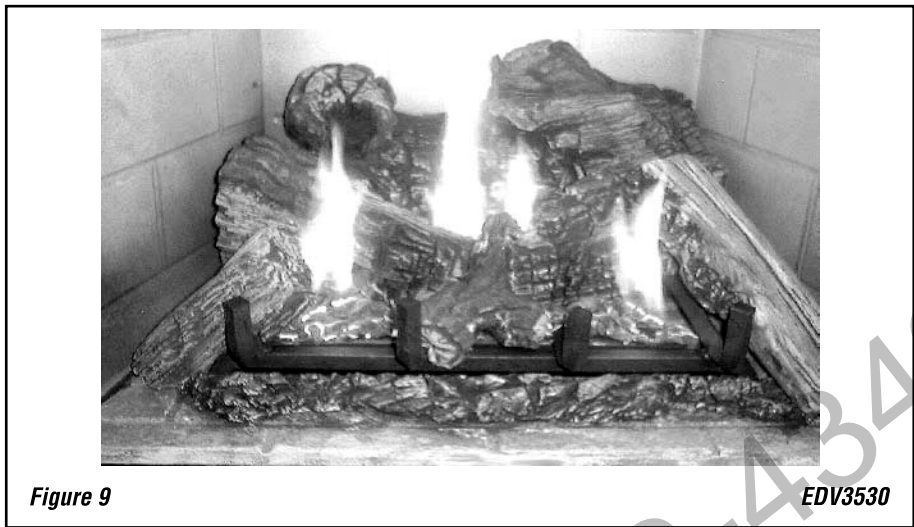
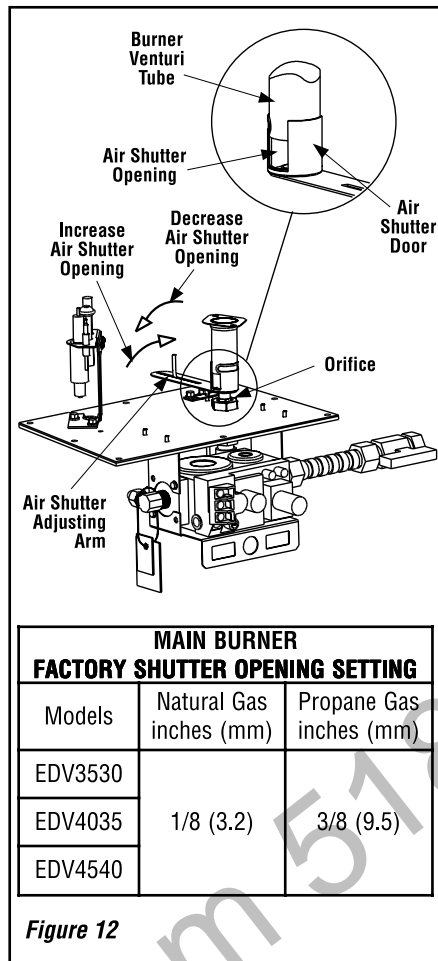

Figure 9
Figure 12
1. Refer to **Figures 9, 10 and 11** for proper flame appearance. To adjust the flame, rotate the adjustment rod toward the back or toward the front of the fireplace (rod located in the lower control area). Position the air shutter to the factory setting as shown in the table in **Figure 12**.